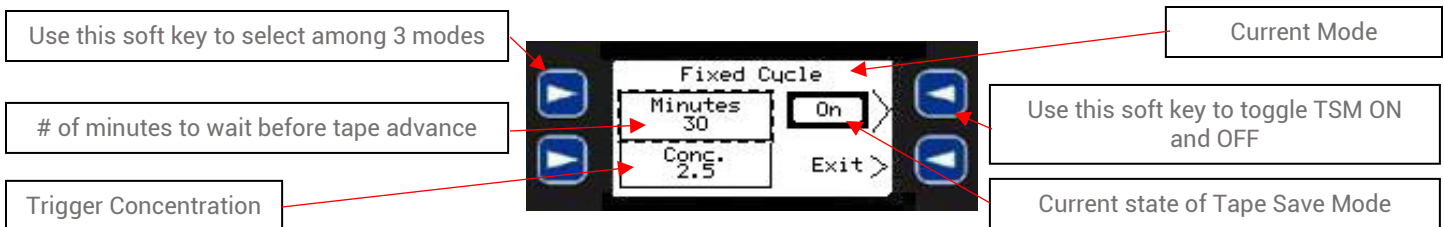
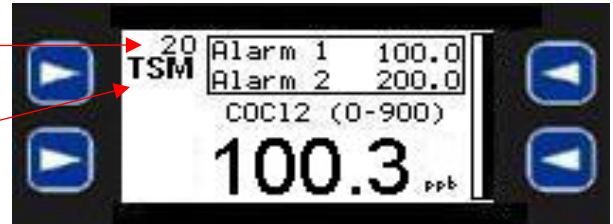

Figure 5.15
Figure 5.16
WARNING – When tape saver mode is active the actual gas concentration may not be displayed. Anytime the counter (in seconds – see figure 5.16) is counting down to zero NO ANALYSIS IS BEING PERFORMED and the concentration displayed may not be accurate.
Example using figures 5.15 and 5.16: When the values displayed in figure 5.15 are entered and TSM is enabled (ON), a gas concentration reading of 100.3 would start the TSM counter and freeze the concentration reading at 100.3 ppb. (see figure 5.16) Regardless of the amount of gas present during this time the counter will start at 300 seconds and countdown to 0 before advancing the tape and calculating a new gas concentration.